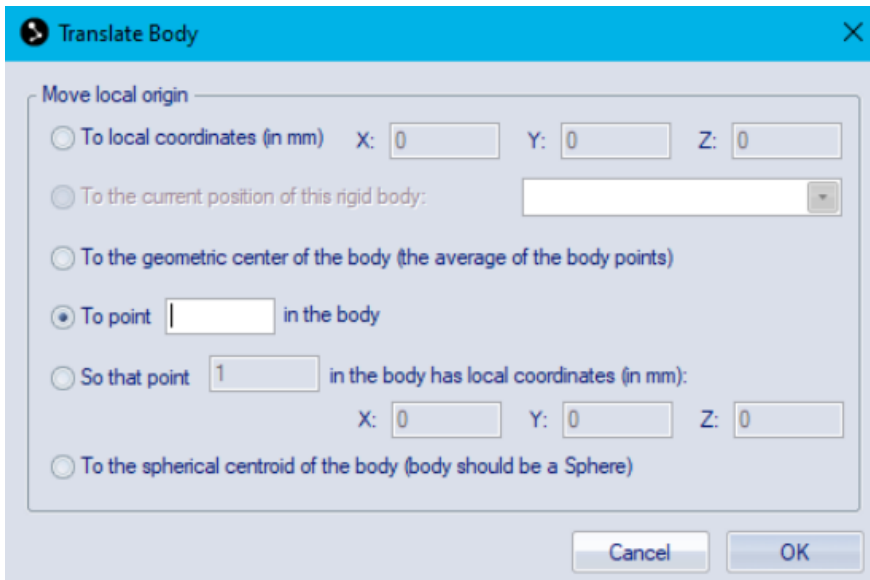

Figure 13: Translate window.
10. In the translation window that can be seen in Figure 13 select *To point n in the body*, where *n* should be chosen as the number corresponding to the virtual point of the body, press *OK*. Now the origin of the defined body is placed above its rear axle.